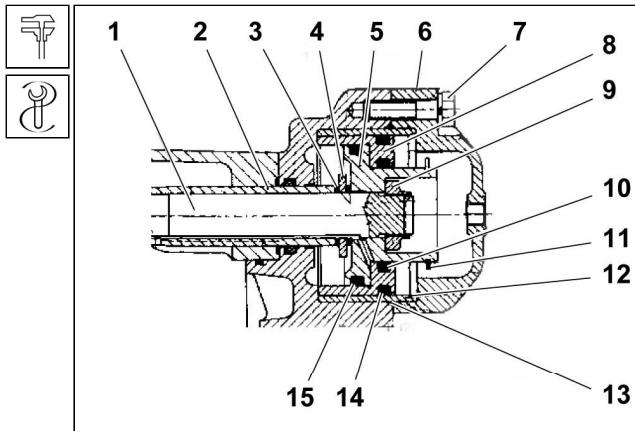

Fig. 4.7 Auxiliary gearbox shift cylinder
12. Oil the cylinder **12** (See Fig. 4.7) and secure with the tool **PRM 2439.1**.
15. Fit washers **3** and **4** on the piston rod (shift bar) **1** (See Fig. 4.7).
26. Fit ring **13** on cylinder **12** (See Fig. 4.7) from outside.